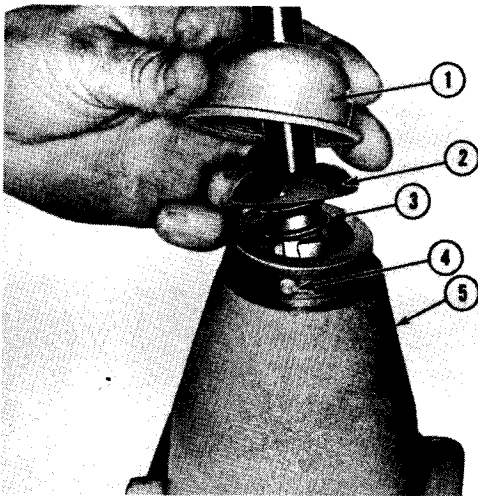

Figure 4-18
Loosen cap housing (1, Fig. 4-18), spring washer (2) and spring (3). Remove control bracket pin (4) and remove control lever from housing (5).